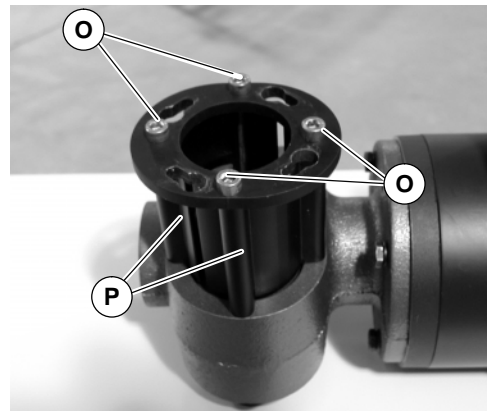

Figure 10
3. Remove the four (4) coupling spacer screws (O of Figure 10) and remove the coupling guards (P).
12. Install coupling spacer (P of Figure 10) to gearmotor (S) and tighten screws (O) to 110 in-lb (12 N-m).